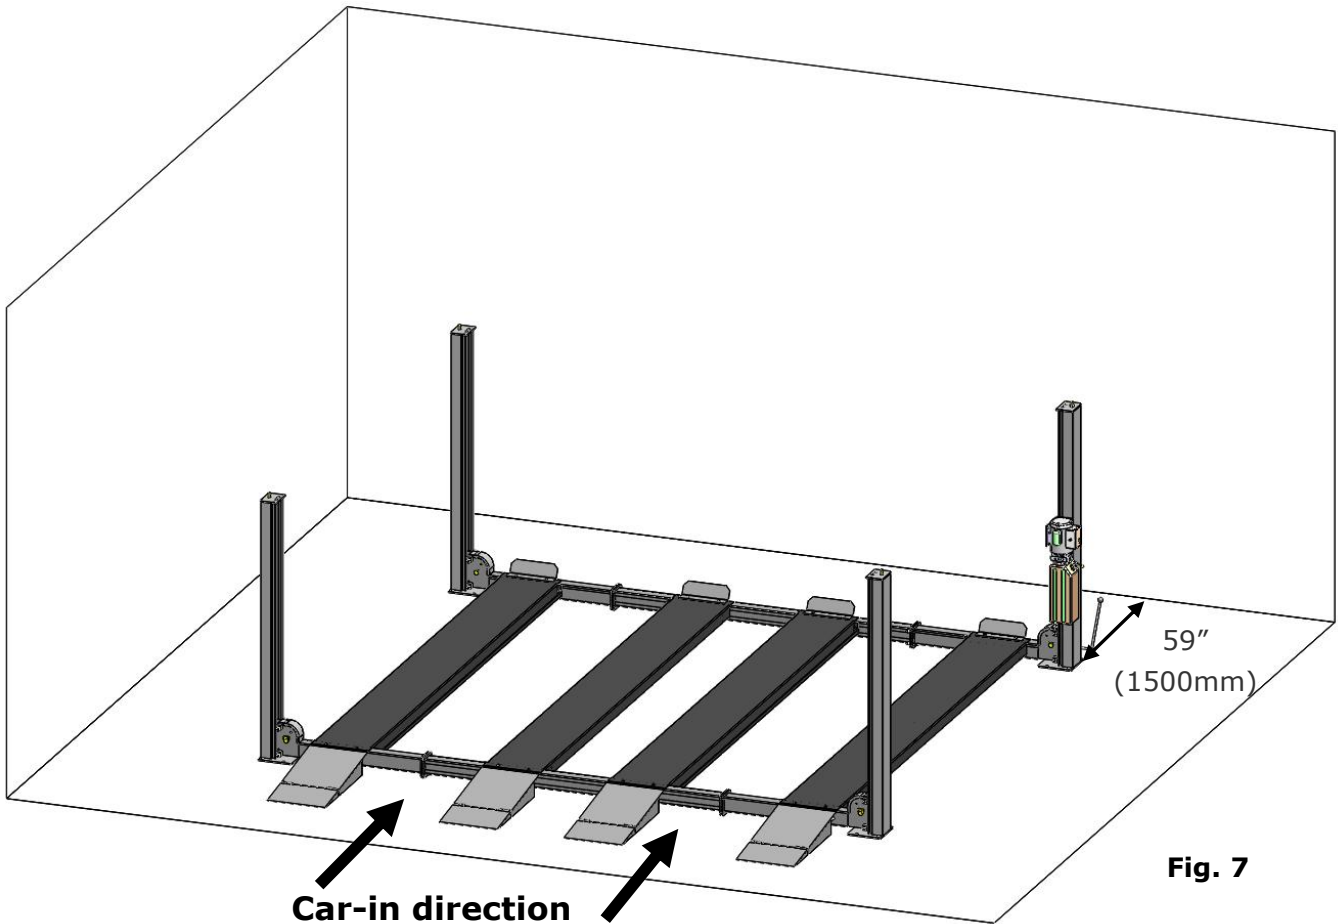

Fig. 7
D. SPECIFICATIONS OF CONCRETE (See Fig. 7)
1. Installation space: Ensure there is enough space for the lift. Accurately measure the front, back, side and top mounting dimensions and refer to the below figure data (**See Fig. 7**).